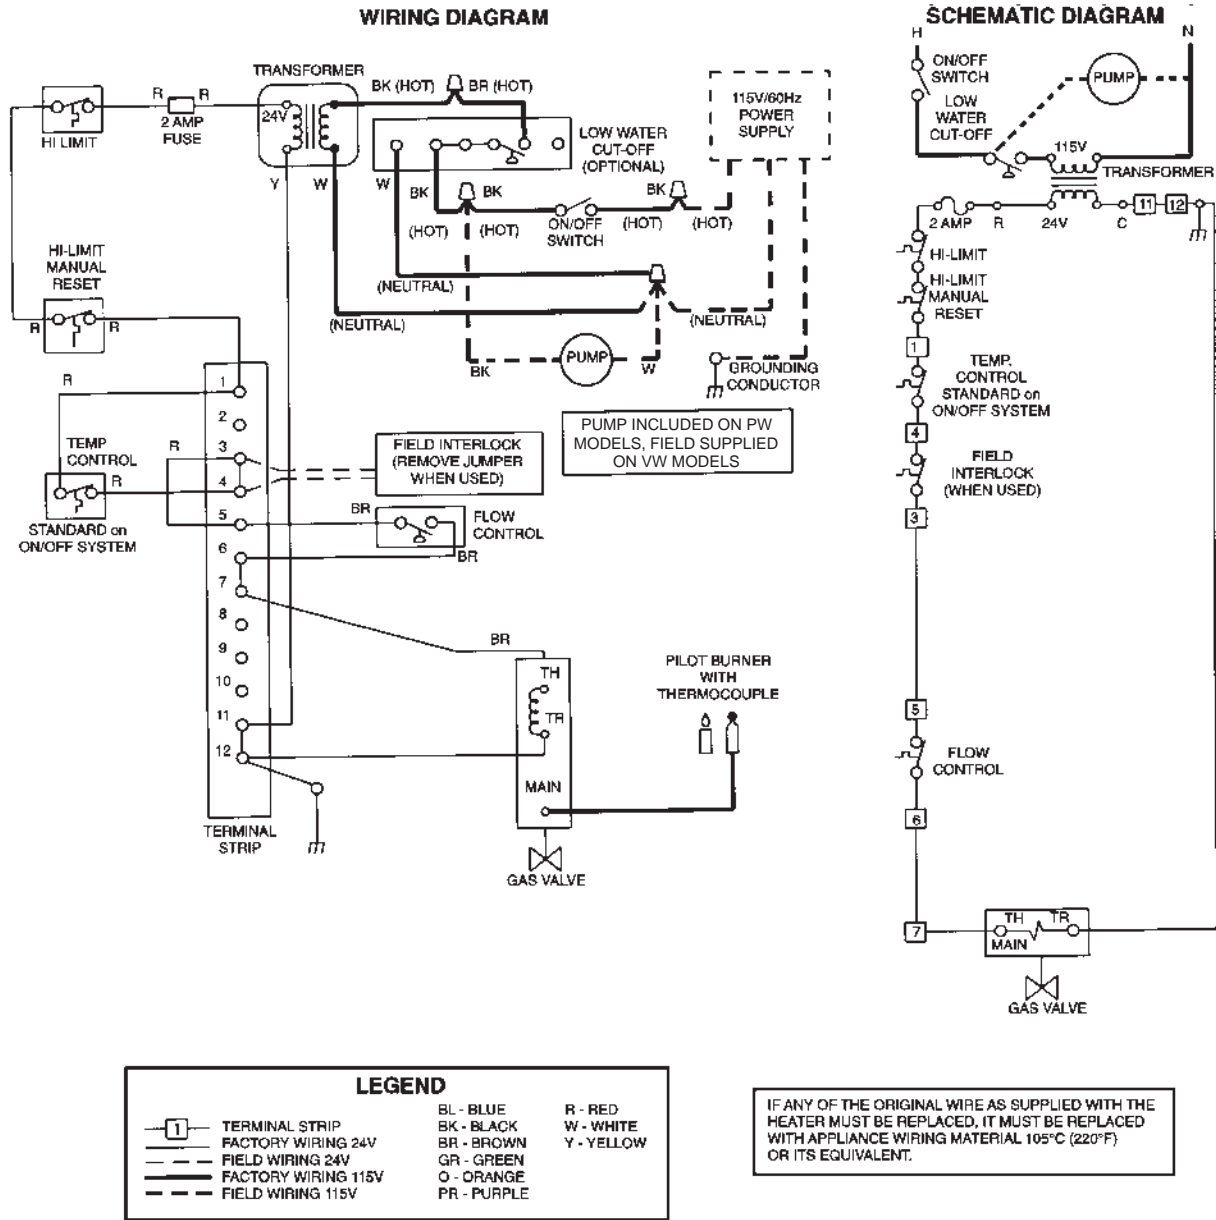

Figure 26. Typical example of wiring schematic, System 1.
- Wire the heater and pump exactly as shown in the wiring diagram supplied with the heater. See Figure 26 and 27 for a typical example of a wiring diagram.